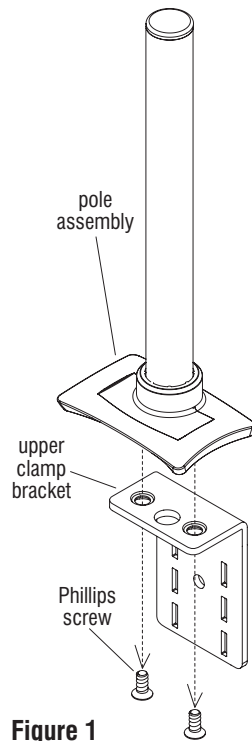

Figure 1
1. Using a Phillips screwdriver, remove screws attaching the upper clamp bracket to the pole assembly base (Figure 1). Set the upper clamp bracket aside and re-attach screws to the pole assembly base (Figure 2).